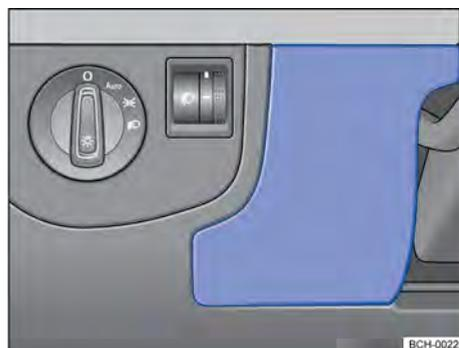

Fig. 178 On the driver's side of the dashboard: fuse box cover.
- Hold the fuse box cover → Fig. 178 and pull forward.